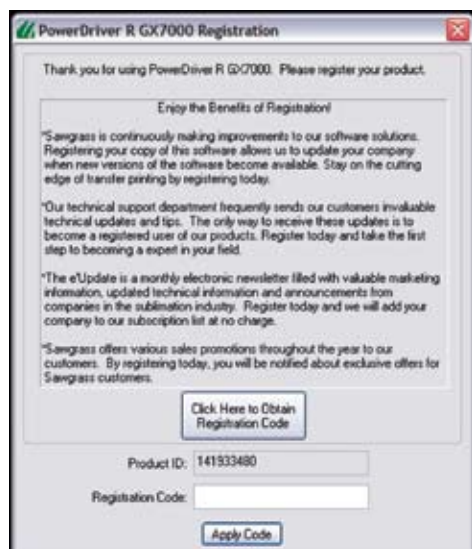

Figure 5
5. The **Product Registration Screen** will appear and ask if you would like to **Register Now**. Click “Yes” In the **PowerDriver R Ricoh GX7000 Registration Screen**, you will use your **Product ID** to obtain a **Registration Code**. You will need a separate **Code** for every machine on which **PowerDriver R Ricoh GX7000** is installed. In **Figure 5**, Click on the button labeled “Click Here to Obtain Registration Code”.